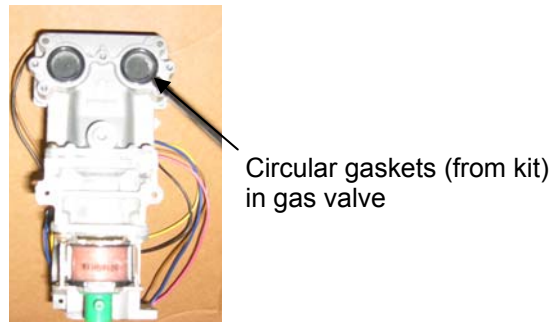

Figure 5
14. Replace the two circular gaskets (included in kit) in the gas valve (Figure 5). Make sure that the ribbed side faces toward the manifold and that the flat side faces toward the gas valve.